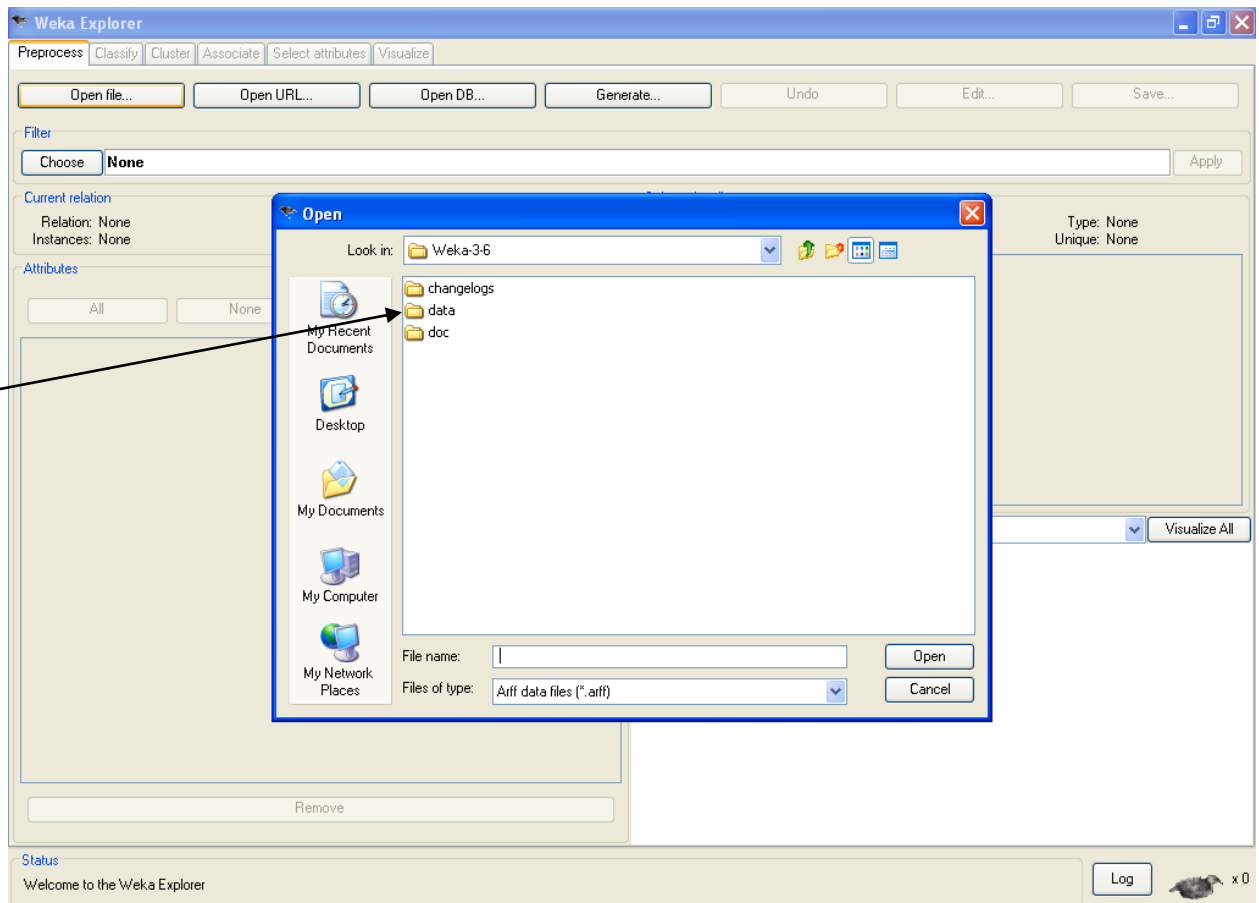

Figure-4
- Now choose the data folder in the open dialogue box as in figure-4.